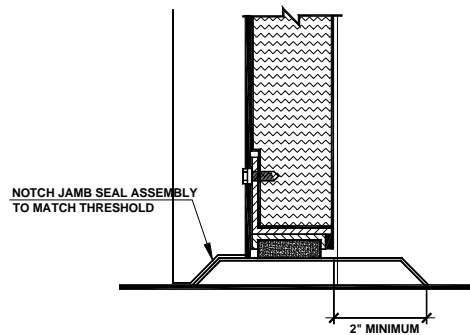

FIGURE 7
C. Notch the jamb seal retainers to match the shape of the previously installed threshold (Fig 7). Thresholds should never be notched around the jamb seal assembly. Install the perimeter seal retainers through the elongated slots with the 1/4-20 machine bolts provided, beginning with the jamb retainers and then the head retainers and slide them to a point farthest away from the door. Install the Sound Tight seals into the retainers beginning at the top and bottom corners, working toward the center then trim any excess at the bottom. Note that the small V-shaped leg of the seal must be toward the door.